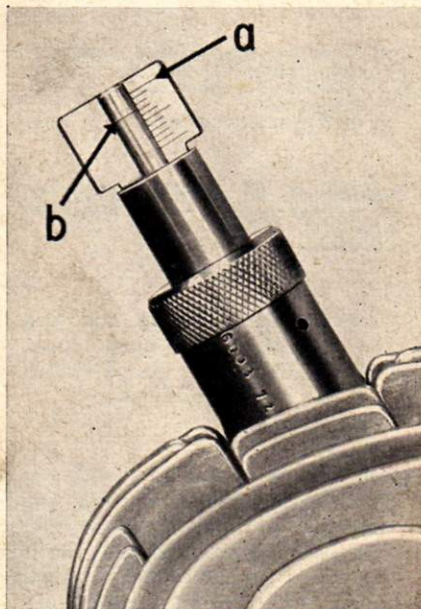

Fig. 64 Adjusting ignition with ignition timing gauge (micrometer slide)
3. Ascertain t.d.c. by turning the fly wheel. Check t.d.c. with a microme slide (fig. 64).
4. Turn the fly wheel disc slowly to the left until the piston is 2.6 — 2.8 mm before t.d.c. The position of the piston is shown on the ignition timing gauge (micrometer slide fig. 64).